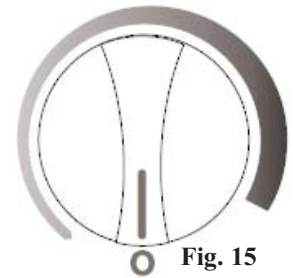

Fig. 15
- To turn off the freezer (no cooling), rotate the control knob to the "0"(off) position. See Fig. 15.